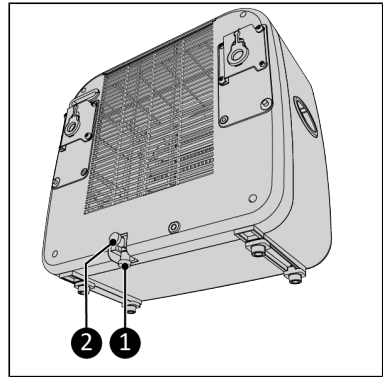

Figure 20.
1. Remove one of the two sealing caps (Figure 20, pos. 1 or pos. 2).
- both sealing caps of the indoor unit are mounted (Figure 20, pos. 1 and 2);
2. Connect the supplied drain hose to the bottom of the indoor unit, see Figure 20.